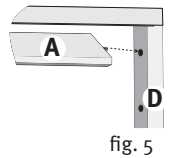
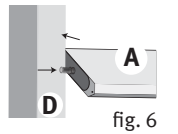

fig. 5
fig. 6
3. Insert one end of assembled Blade (A) into one End Rail (D) (fig.5), insert other end by compressing spring loaded pivot as you slide it into place (fig.6). Repeat until all blades are fitted.